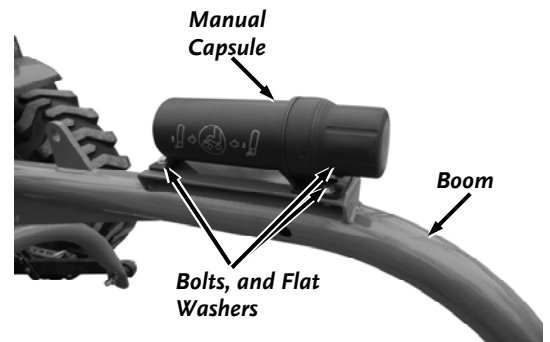

Figure 12
12. Attach the Manual Capsule to the Top of the Boom with three 5/16-18 X 1" Bolts and Flat Washers (**Figure 12**). Tighten the hardware using a 1/2" Wrench.